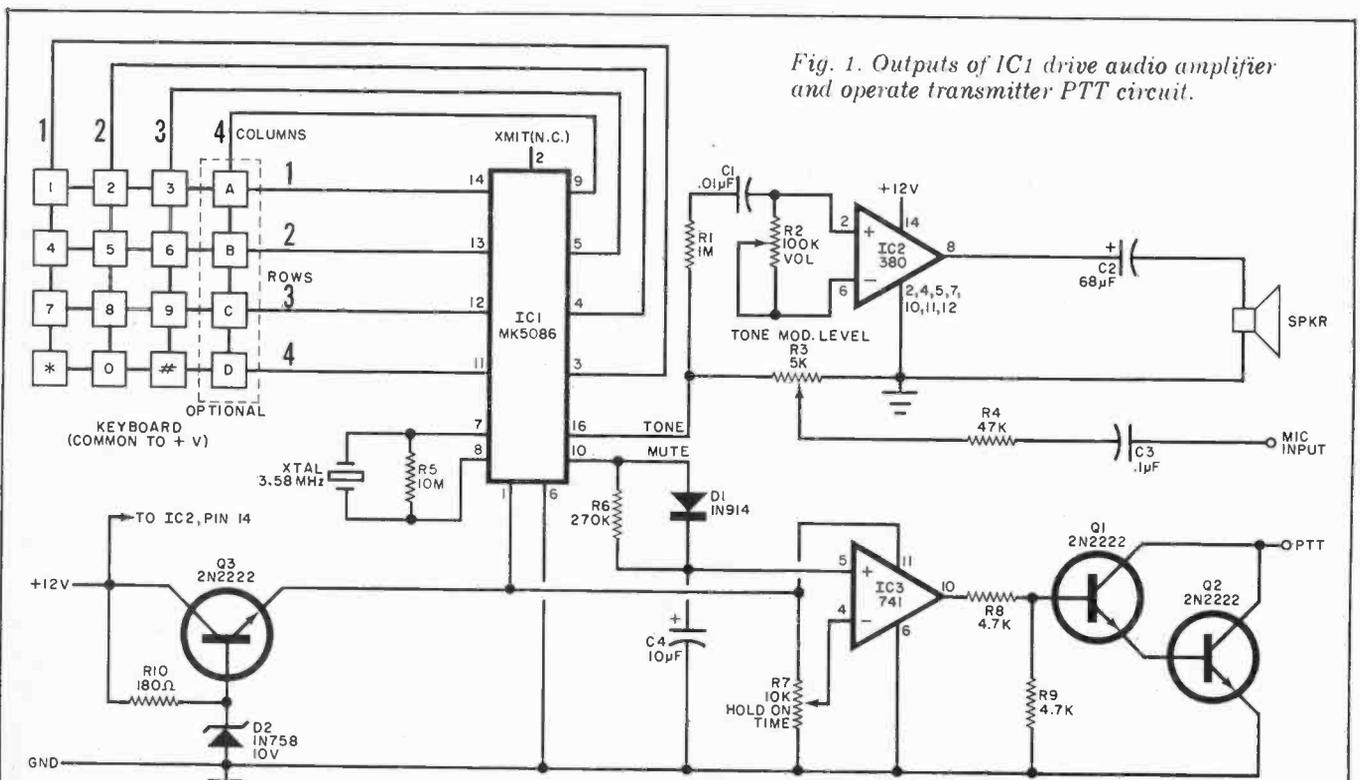

Fig. 1. Outputs of IC1 drive audio amplifier and operate transmitter PTT circuit.
**Circuit Operation.** The complete circuit is shown in Fig. 1. The reference frequency is determined by a conventional 3.579 MHz color-TV crystal, with *R5* used as the bias resistor. Operating one of the pushbuttons on the keyboard starts the oscillator. (See box for details of IC operation.)